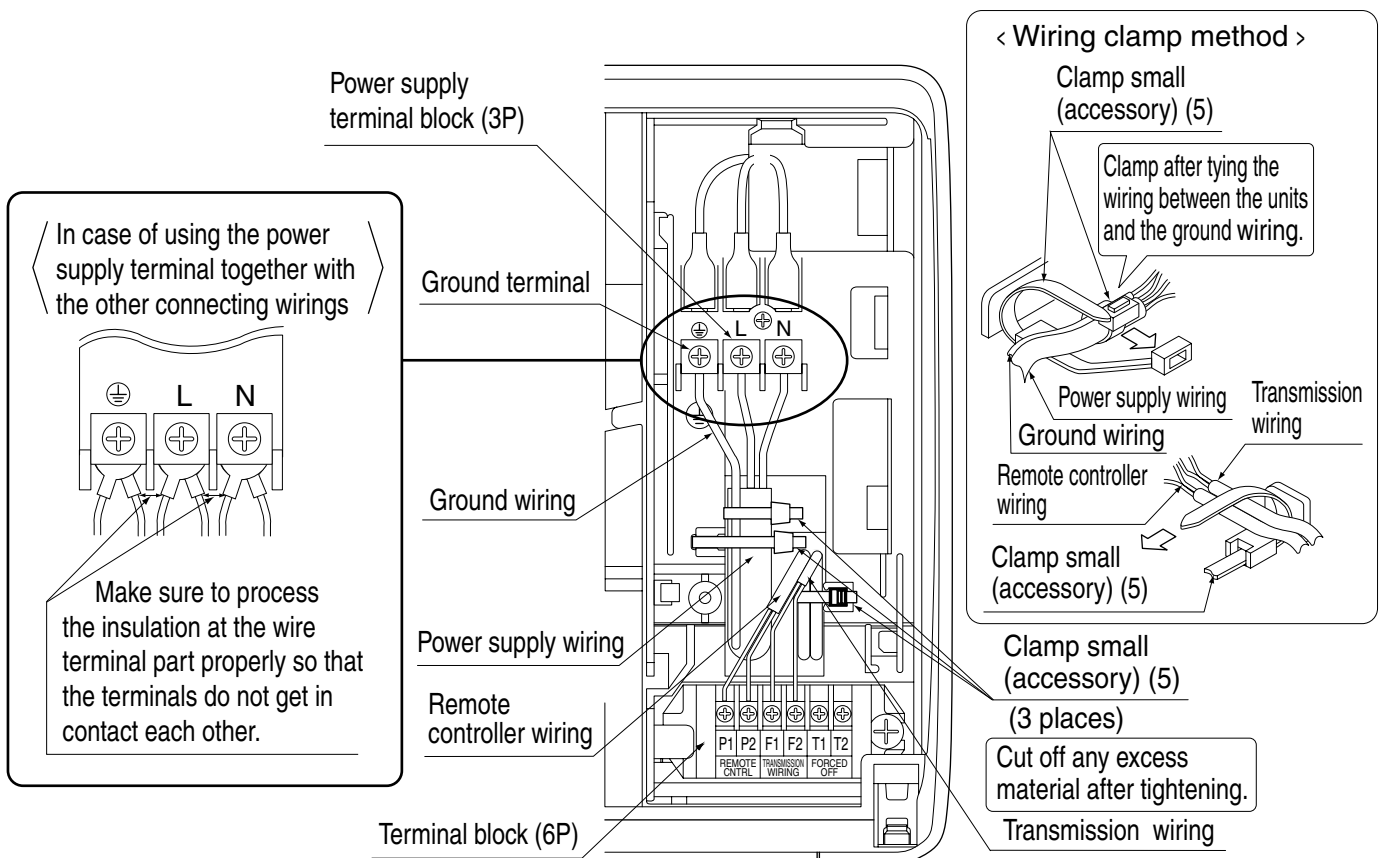

Fig. 21
(Refer to Fig. 21)
When doing this, tie the remote controller wiring and the transmission wiring using the included clamp (small) (5) and then firmly secure using the included clamp (small) (5) according to the figure. **(Refer to Fig. 21)**